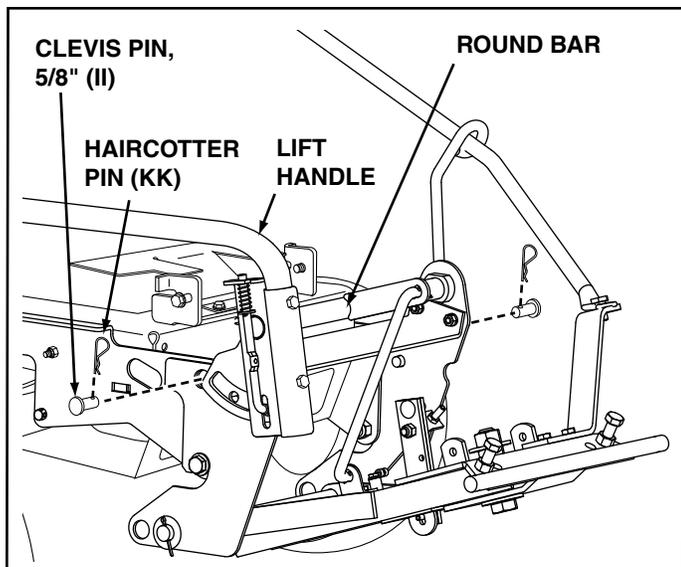

FIGURE 29
STEP 2: (SEE FIGURE 29)
- Insert two 5/8" clevis pins (II) through the holes in the frame assembly and the frame brackets and secure with two hair cotter pins (KK).